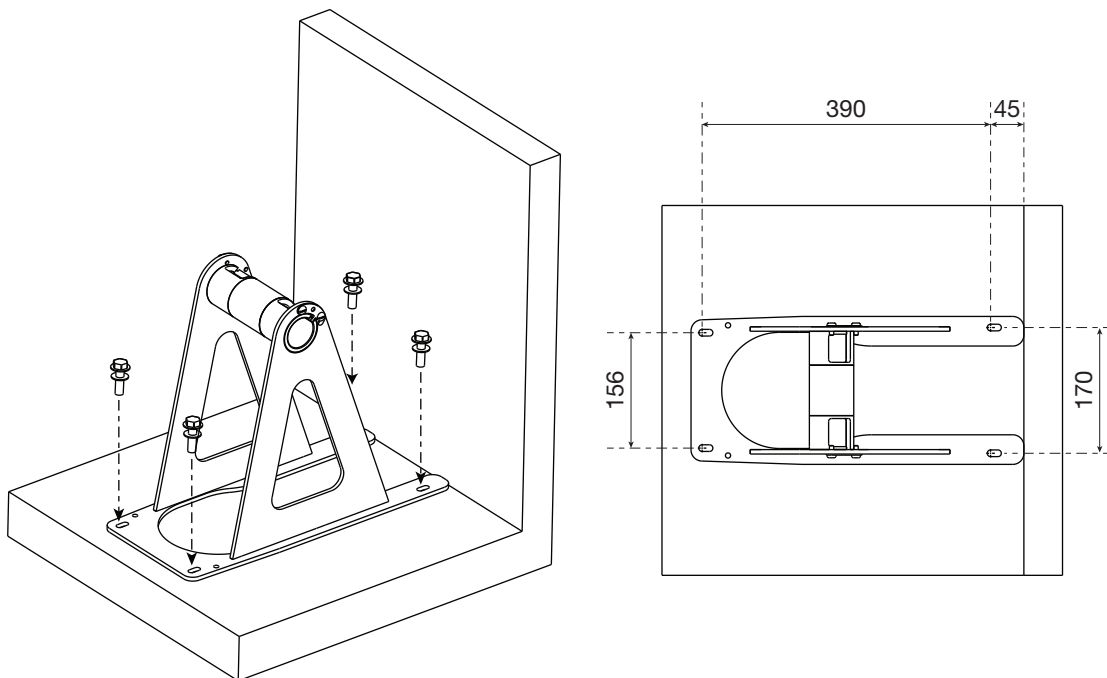

Fig. 2
2. Install hinge block flush with wall. Attach with 4 x fixing screws (not supplied) in positions shown above in **Fig. 2**. Use M8 dynabolts for masonry, or M8 coach screws for timber flooring.